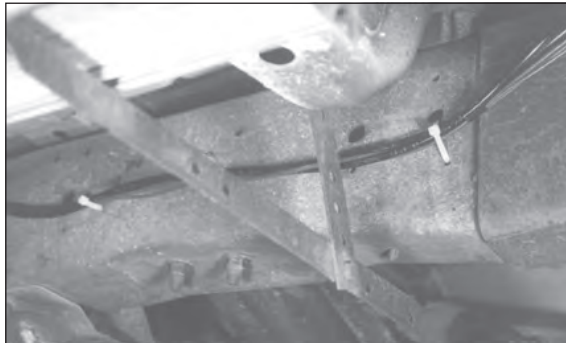

fig. 19
*In some cases a hole may have to be drilled or cut to allow access for the harness. Drill or cut a 1" diameter hole and install the provided flexible grommet (J). It will be necessary to seal any grommets or holes that have been cut, drilled or removed so as not to allow elements to enter the cab area of the vehicle.*
2. Route the harness (A) along the frame rail. Keep away from heat (exhaust system, etc.) and moving chassis components. Secure harness to frame with plastic tie straps (M) provided (Fig. 19).